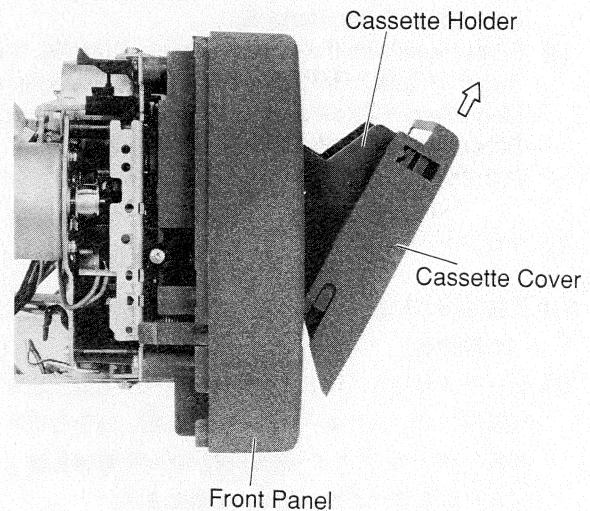

Figure 8
- (1) After removal of the deck mechanism (A), open the cassette holder.
(2) Remove the cassette cover in the direction of the arrow as shown in Figure 8.